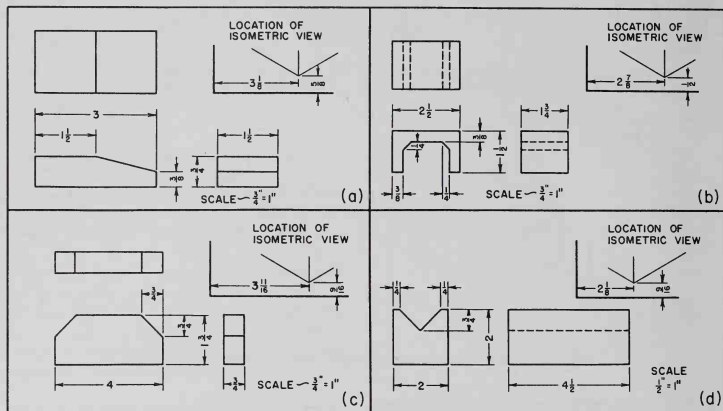

Fig. 8-6. Problems for isometric drawing.
2. Use sections A and B and draw isometric views of two of the objects shown in Fig. 8-6, as assigned by your instructor.